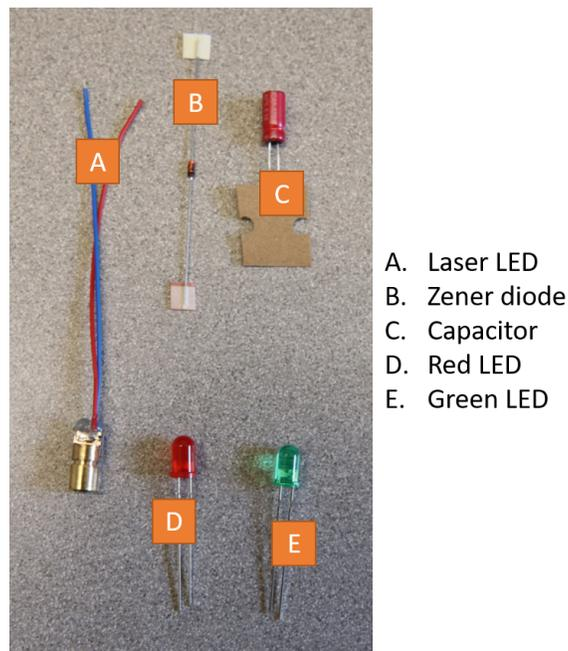

Figure 3: Electrical components found in the 1P92 accessory kit
- capacitor (see Figure 3)
- Zener diode (see Figure 3)